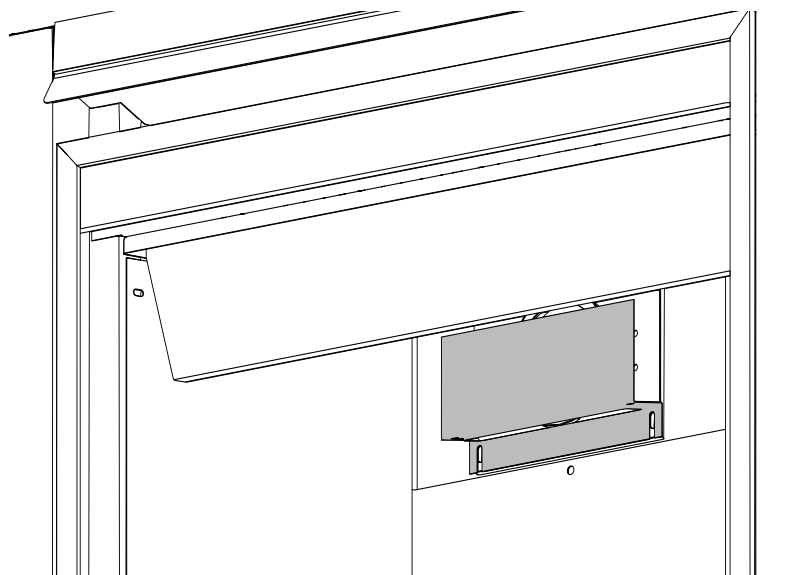

Fig. 1
- B. Loosen the two screws that secure the exhaust plate, and slide the shield in place by sliding its slotted openings behind the screwheads. Tighten the two previously loosened screws (**Fig. 1**).